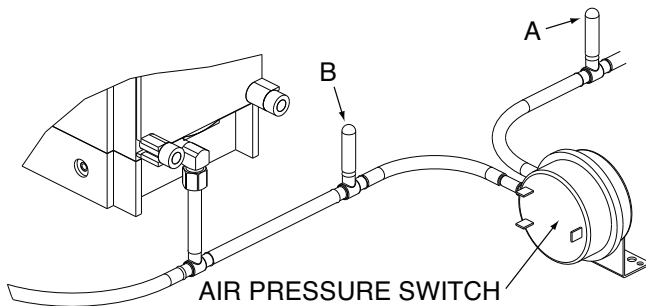

Fig. 53: Air Pressure Measurement Locations
1. Check the net blower suction using a 6-0-6 U-tube manometer by connecting one end to the blower suction pressure tee (attached to the negative side of the air pressure switch, point “A” in Fig. 53) and the other end to the tracking pressure tee (attached to the positive side of the air pressure switch, point “B” in Fig. 53). Read the differential pressure with the heater firing at 100% input and compare to Table V.
2. Check the tracking pressure by removing the end of the U-tube manometer from the blower suction pressure tee (point “A” in Fig. 53). Replace the cap on the blower suction tee and check the tracking pressure (at point “B” in Fig. 53) with the heater firing at 100% input. The tracking pressure provides feedback to the gas regulator to compensate for various air ducting arrangements and changes in the pressure drop across the combustion air filter. Initial readings with a clean air filter installed must be recorded on the “Start-up Checklist” located at the back of this manual. When the tracking pressure is more negative than -0.6 in. WC for 1005 and 1505 models or -0.8 in. WC on 2005 models and there are no obstructions to the air intake, replace the combustion air filter. If the air intake is obstructed, shut the unit off, clear the obstruction, re-start and check the tracking pressure as previously noted.